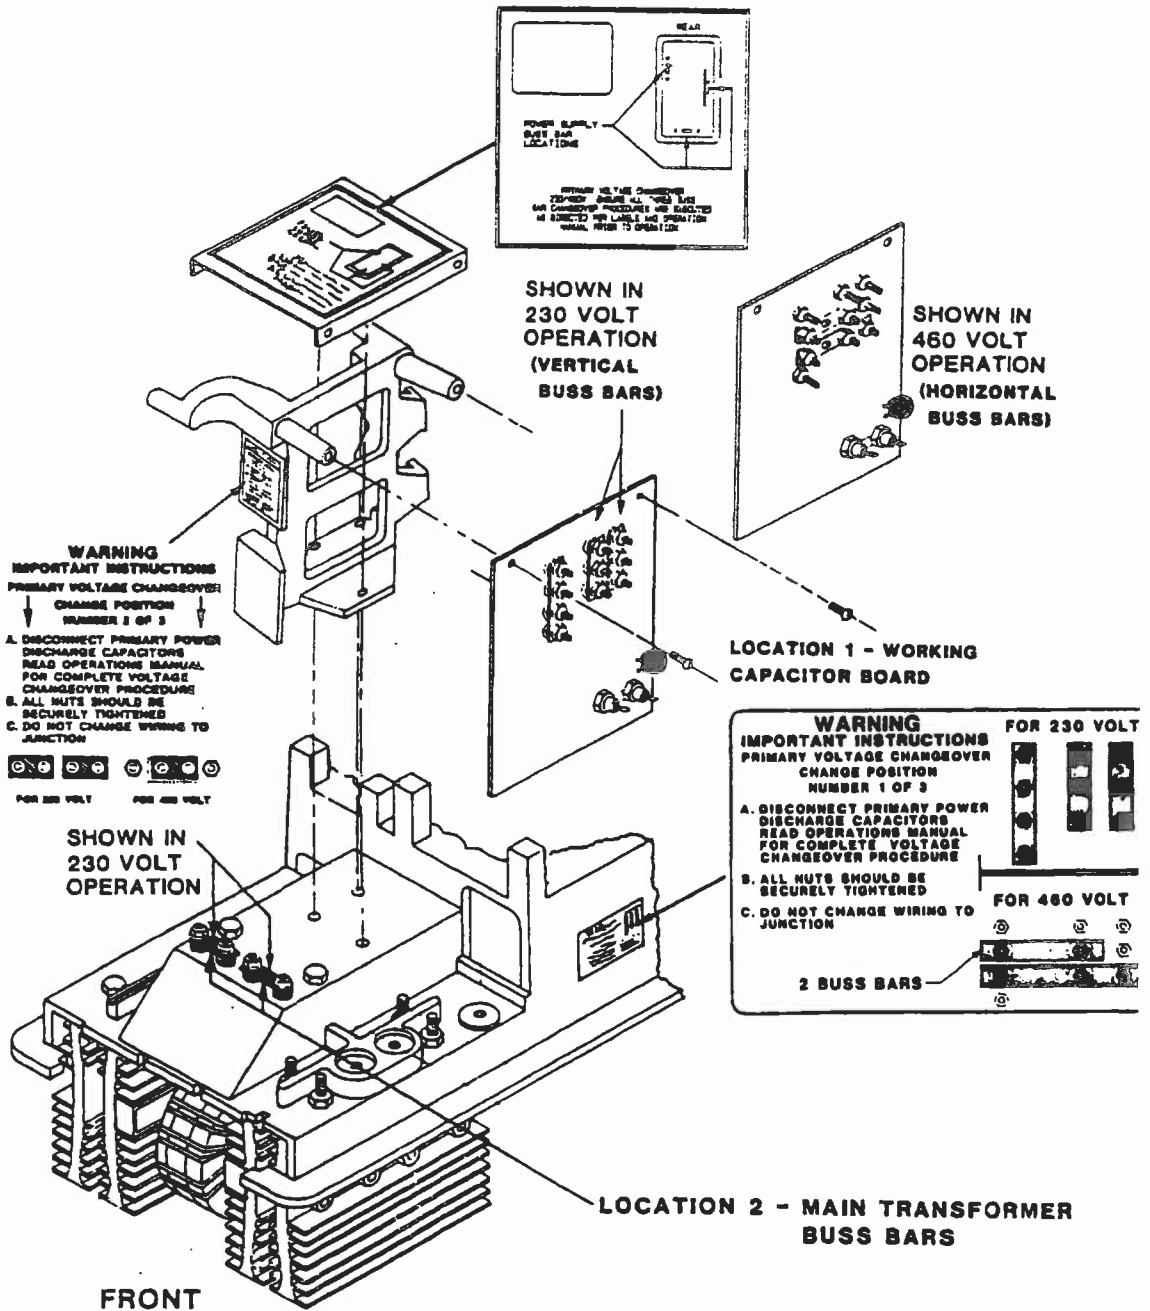

Figure 3, Location 1 and 2 Voltage Changeover
- 1) Working capacitor board (right front side of unit, see Figure 3.)
- 2) Copper buss bars for main transformer (front of unit, see Figure 3.)
- C) Identify the voltage change-over instruction labels for the copper buss bars and working capacitor board located as shown in Figures 3 and 4.
- A) Locate the working capacitor PC board as shown in Figure 3.
- A) Locate the instruction label for the copper buss bars shown in Location 2 of Figure 3.